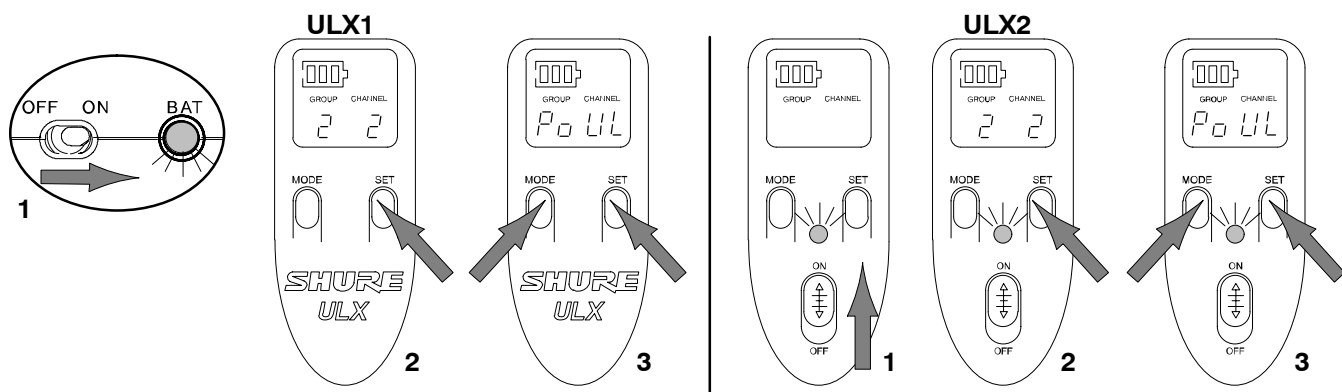

FIGURE 36
2. While holding down the transmitter SET button, press and hold the MODE button for four seconds. “Po UL” will appear on the display. See Figure 36. This display indicates that the Power On/Off switch is unlocked. The transmitter will then return to normal operating mode.